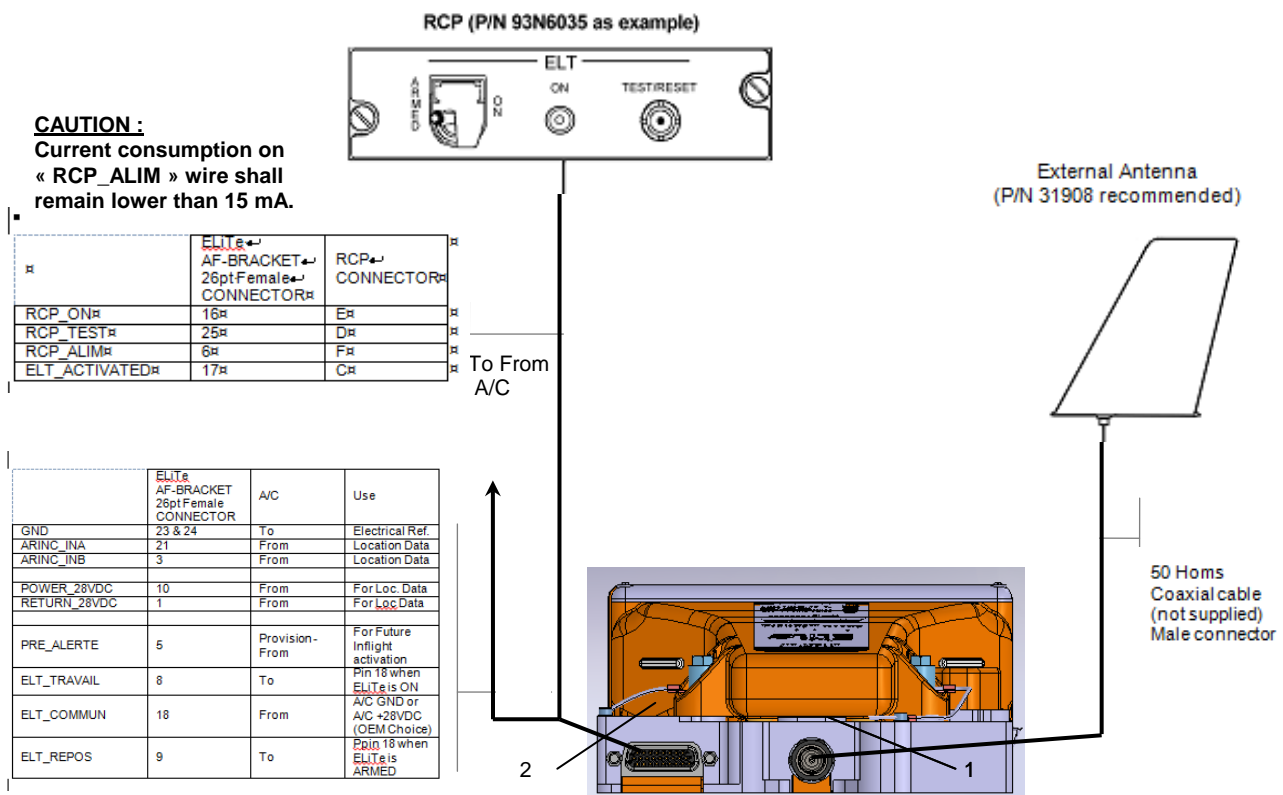

Figure 14
Refers to Figure 14 for wiring details.
F. Installation and configuration of the ELiTe Automatic Fixed (Ref. Figure 14)
- (1) For ELiTe ELT in the Automatic Fixed configuration ELiTe AF-BRACKET shall be connected to an external antenna as indicated in Figure 14 with RF connection losses between 0.2 and 1.5 dB max. Physical installation of the external antenna shall not degrade the antenna specification (VSWR and radiation pattern). It corresponds to the Configuration 6 “Antenna fixed to ground plane – ELT Like” as defined in Cospas-Sarsat C/S T.007 specification.